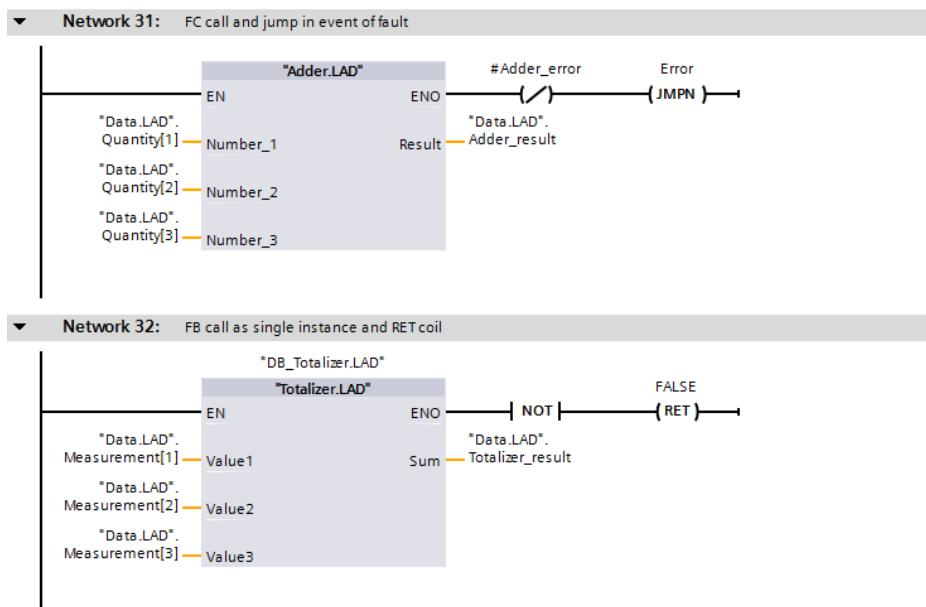

Fig. 7.37 Examples of functions for program control in the ladder logic
The top network in Fig. 7.37 shows the call of a function (FC). The function name is
In the second network in Fig. 7.37, the block with the RET coil is left if the “Totalizer.LAD” block signals an error. The ENO output of the exited block is set then to signal state “0” (FALSE).